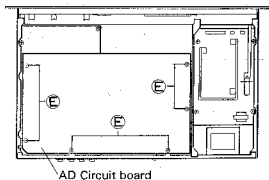

Fig. 3
- Remove the top cover. (Refer to item 1)
- Remove the 6 screws **E** (3 × 8 bind head screw). (Refer to Fig. 3)